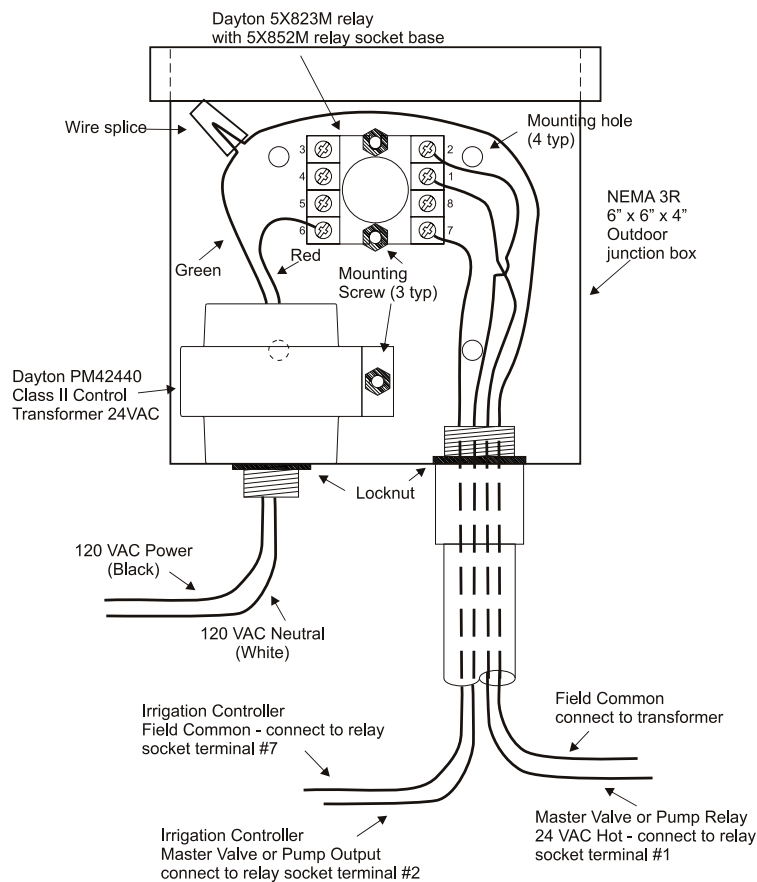

Figure 2 - Auxiliary Transformer Relay Assembly
The transformer can supply enough power to operate six 0.25 amp (A) solenoids. If a master valve or pump start relay is used, the transformer can operate five 0.25A solenoids. If additional power is necessary for master valves or pump relays which draw too much amperage, an auxiliary transformer relay assembly may be built (Figure 2).